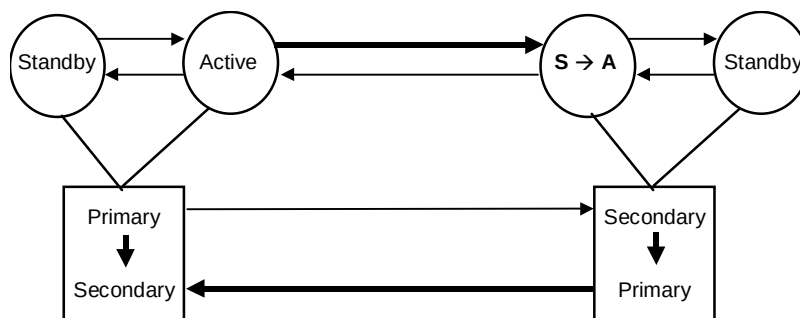

Figure 2.5 Package Transfer on High Availability (HA) Software
In a high-availability (HA) environment, a package is a group of applications that are scripted to run on the secondary host in the event of a primary host failure. When using the HA software (e.g., MC/ServiceGuard), the package can be transferred to the standby node as an operation executed by the system administrator (see Figure 2.5). However, if the operation is performed in an environment in which Hitachi TrueCopy is used, the volume is switched from primary to secondary as if an error has occurred, even though data consistency is assured. When returning the package to the current node, it is necessary to copy the secondary volume data into the primary volume, and this operation can take as much time as the initial copy operation for the pair. In actual operation, no package can be transferred when TrueCopy is used. The secondary package is switched to the primary package, and vice versa, when the primary volume is switched to the secondary volume. Therefore, the primary and secondary TrueCopy volumes should be switched depending on the package state.